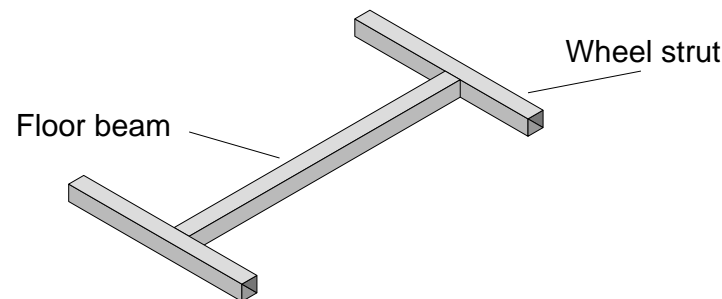
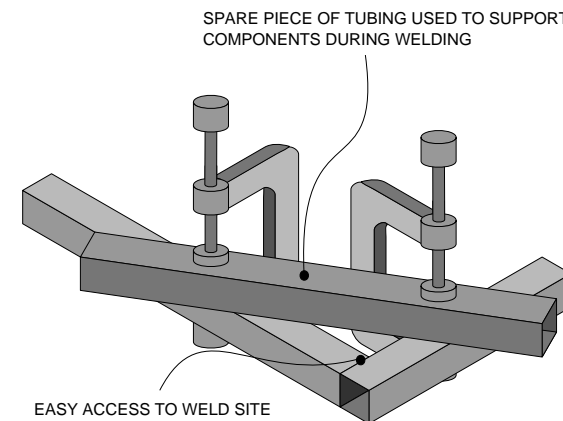

Figure 2: finished H frame.
Figure 3: holding frame components during welding.
- 2) Next make up the two H-shaped frames shown in Figure 2. If you have a couple of G clamps you can use them to hold two pieces of the frame together during welding as shown in Figure 3. It's quick and you can tap the parts with a hammer until everything is square and straight and then weld.